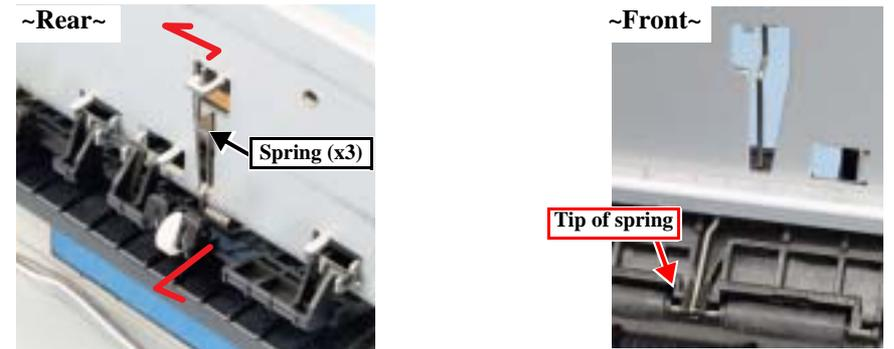

Figure 4-74. Removing the Springs
4. Remove torsion springs (x3) at the rear of the printer. (Fig. 4-74)
Install the springs properly, while paying attention to the tip position of each spring. (Fig. 4-74)